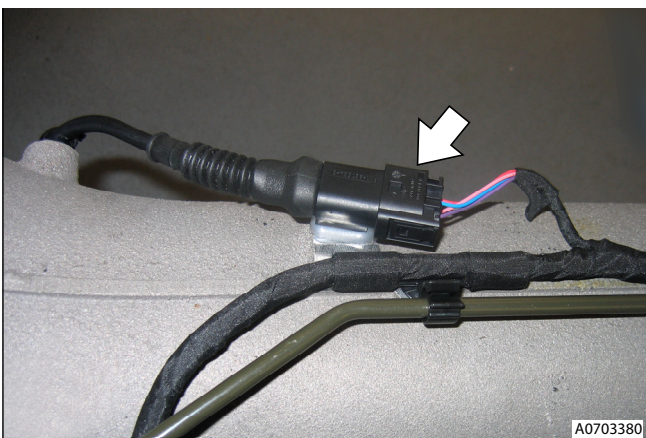

Fig. 2
5. Disconnect multiplug between clutch position sensor and transmission harness (see Fig. 2).